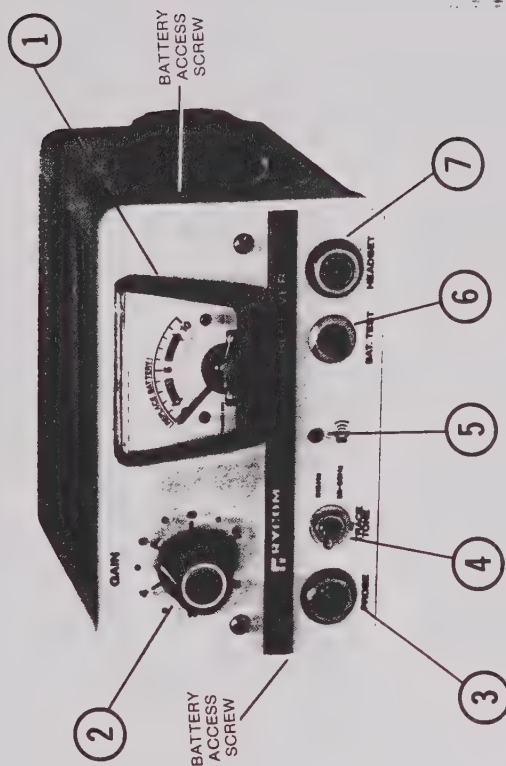

Figure 1-5. Receiver Features
- ④ **TRACE TONE SWITCH.** Flip to the 815 Hz position when you use the 8830 transmitter as the trace tone source. Trace energized power cable by flipping the switch to the 50-60 Hz position. Note that no transmitter hookup is required when tracing energized cable.
- ⑤ **SPEAKER.** Listen to the audio PEAKS and NULLS when you use the receiver. The speaker produces an audio tone related to the meter reading (0 to 10). When the meter reading rises, the pitch of the audio tone rises. When the meter reading falls, the pitch of the audio tone falls. The lowest pitched tones are called NULLS. The highest pitched tones are called PEAKS.
- ⑥ **BAT. TEST SWITCH.** Test the batteries by pressing the BAT. TEST switch and reading the meter. Replace the batteries as follows:
- a. Remove the 2 battery access screws (see Figure 1-5).
- ⑦ **HEADSET JACK.** The speaker is turned OFF when you use the headset.
- ⑧ **VOLUME ADJUST FOR SPEAKER & HEADSET.** Remove battery access screws and receiver cover. Adjust pots to desired level.